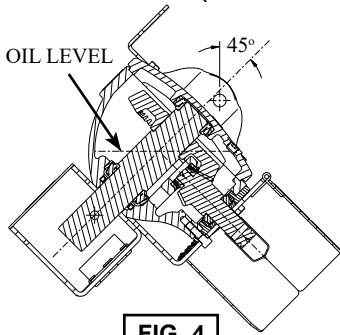

FIG. 4
**STEP 8:** Remove the fill plug at the top of the gearbox, and fill the gearbox with two quarts of multigear lubricant EP SAE 140 (or EP SAE 85W/140) **before operating the gearbox**. Tip the gearbox 45 degrees (avoid pinch points as gearbox pivots), and check the level at the plug (see FIG. 4). **DO NOT OVERFILL!** Replace the plug before operating the digger.